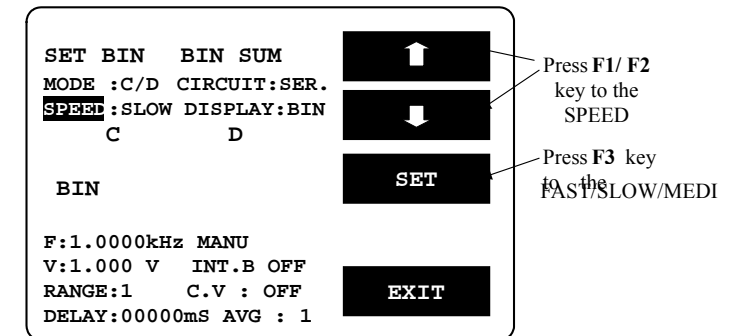

Figure 8-4
- Press F3 key to select FAST, SLOW or MEDI shown as Figure 8-4 below. For further details, please refer to 4-4-5.